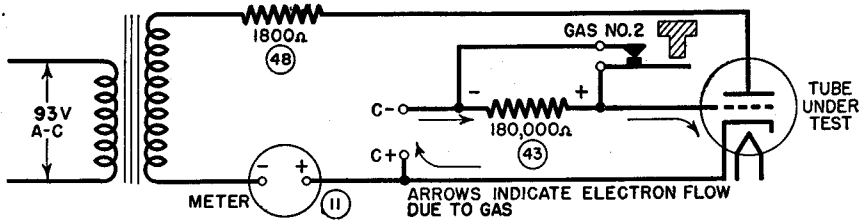

Figure 4. Tube Tester I-177, gas test circuit.
16. GAS TEST (fig. 4). Pressing GAS NO. 1 button applies definite values of plate and grid voltages to the tube under test, causing a definite value of plate current to flow. Pressing GAS NO. 2 button inserts 180,000-ohm resistor 43 in the grid circuit. If the grid bias voltage source is sending current through the grid circuit due to gas in the tube, this current develops a voltage drop across resistor 43 that reduces the negative bias, causing a corresponding increase in the plate current being measured by the meter. A tube with negligible gas gives less than a scale division of plate current increase when GAS NO. 2 button is depressed.